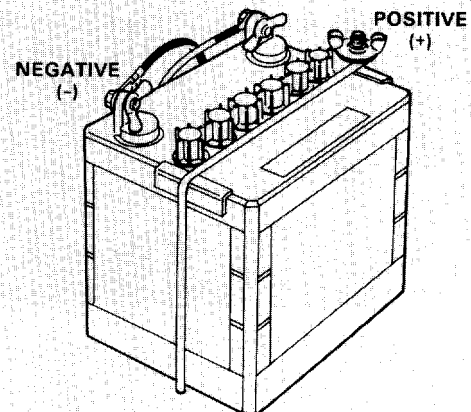

Figure 4
8. Install the battery with the terminal posts toward the center of the machine and vent tube thru hole in frame (Fig. 4).
10. Install the positive cable to the positive (+) terminal and the negative cable (black) to the negative (-) terminal of the battery and secure with capscrews and wing nuts. (Fig. 4).